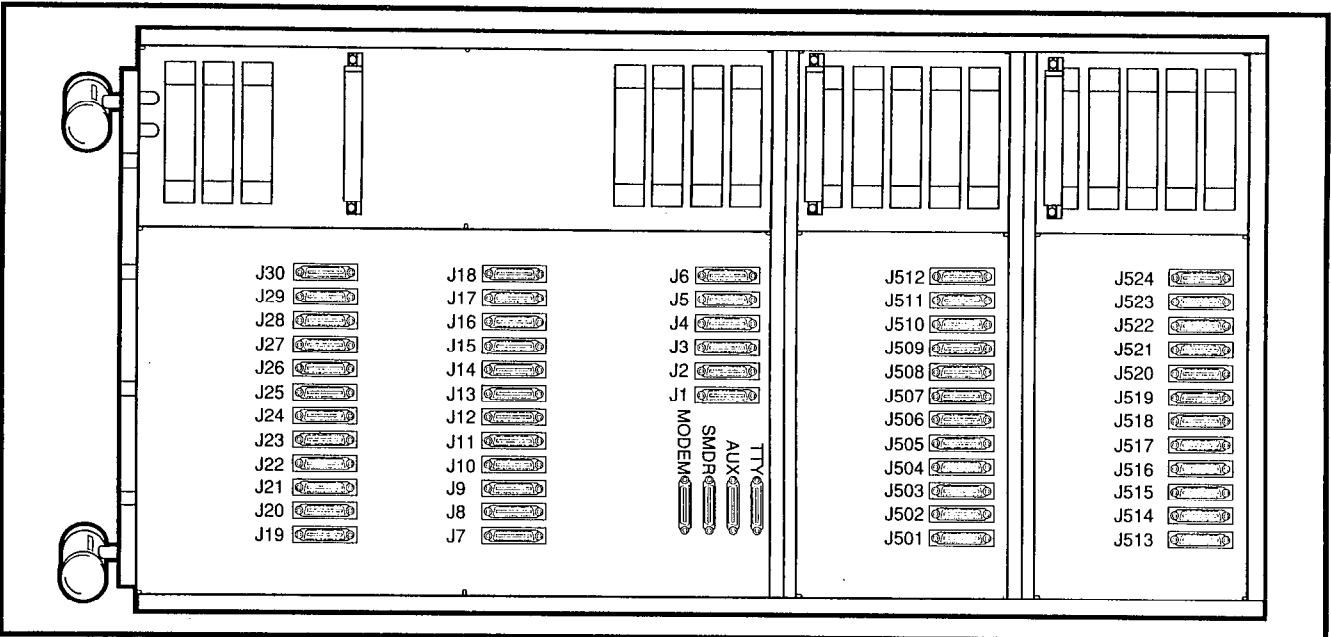

FIGURE 4-7—PERCEPTION^{ex}
- 2) Remove and retain six screws securing the basic cabinet rear cover plate and remove the rear cover plate (Figure 4-7).